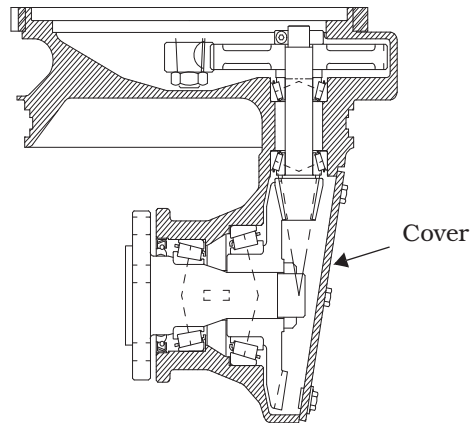

Figure 5-35: Installing Cover
10. Clean the cover plate and mating surface. Apply Permatex 6B to the sealing surface. See Figure 5-35.